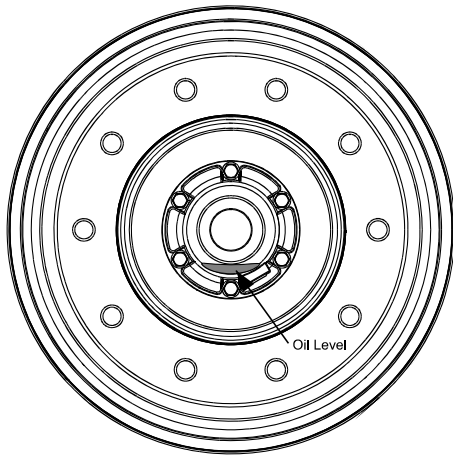

Figure 19 - Wheel Bearing Oil Level
16. Check oil level through the hubcap window. (**Figure 19**). If level is below the “add” level line, then fill with recommended oil until “full” level is achieved. Add oil slowly since the heavy weight oil will settle slowly in the hub. (Note: The hubcap window can only be cleaned with mild soap and water. Aromatic solvents should not be used, as they will impair the transparency of the window.)